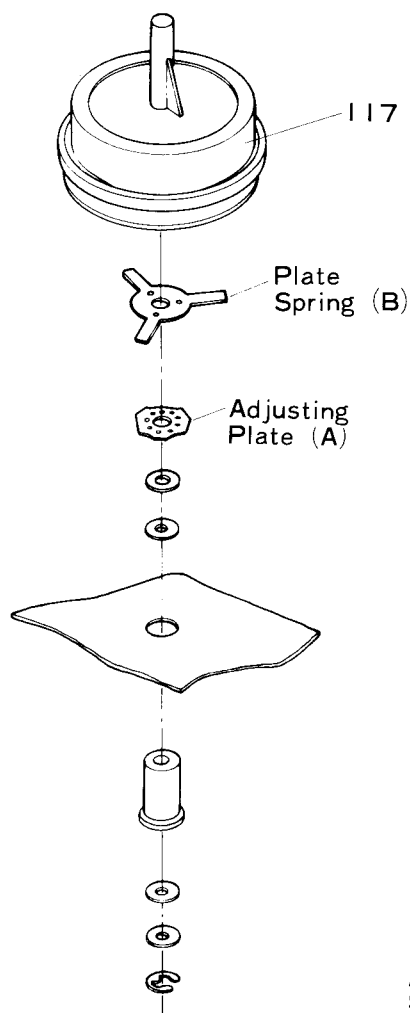

Fig. 5
4. ADJUSTMENT IN FAST FORWARD MODE (Refer to Fig. 5)